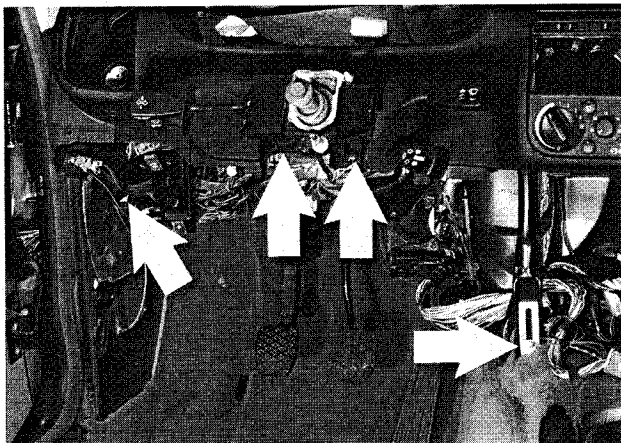

Fig. 7. Reinforcement bar bolts (arrows). Shear (headless) bolts at steering column will have to be drilled out and replaced during reinstallation.
13. Remove reinforcement bar below steering column and remove steering column shear bolts. Lower steering only slightly and support steering column. See Fig. 7.